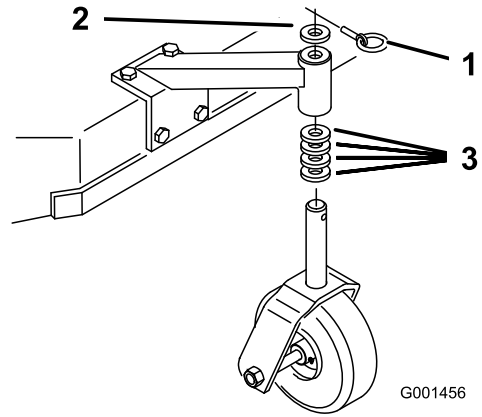

Figure 14
1. Using the Height-of-Cut Chart (page 20), adjust the caster spacers to match with the axle hole selected (Figure 14).
2. Remove the latch pin, slide the caster from the support, and change the spacers (Figure 14).
3. Install the caster in the support and insert the latch pin (Figure 14).